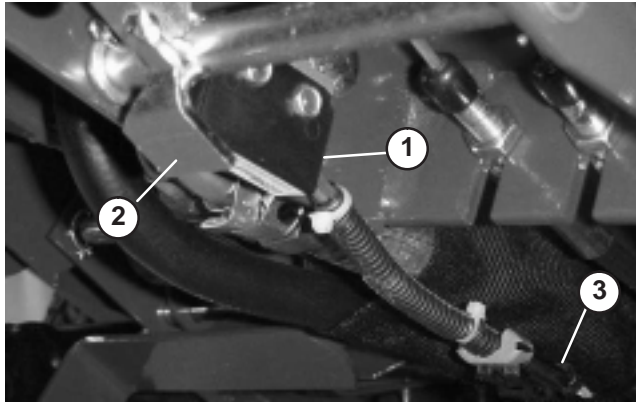

Figure 40
1. Gap between parking brake shaft pivot paddle and bottom of interlock switch (Fig. 40) should be approximately 1/16" (Paddle must not contact switch).